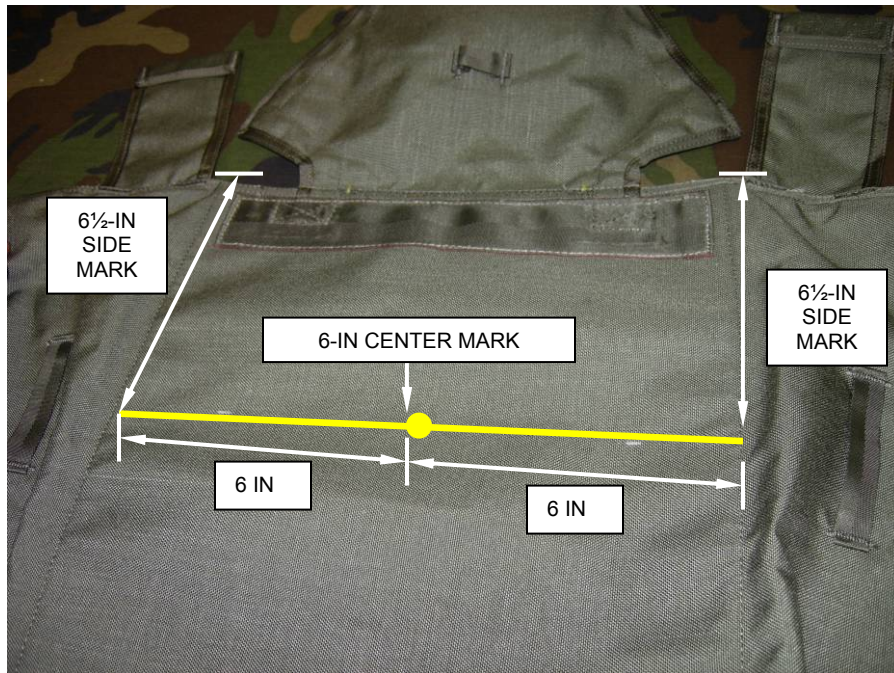

Figure 34. Marking of the Main Pack Tray Assembly.
7. Using a ruler, align both side marks and trace a line across the pack tray making an alignment line from both $6\frac{1}{2}$ -inch side marks, then measure 6 inches to the center from the $6\frac{1}{2}$ -inch side marks and mark the center of the main pack tray (Figure 34).